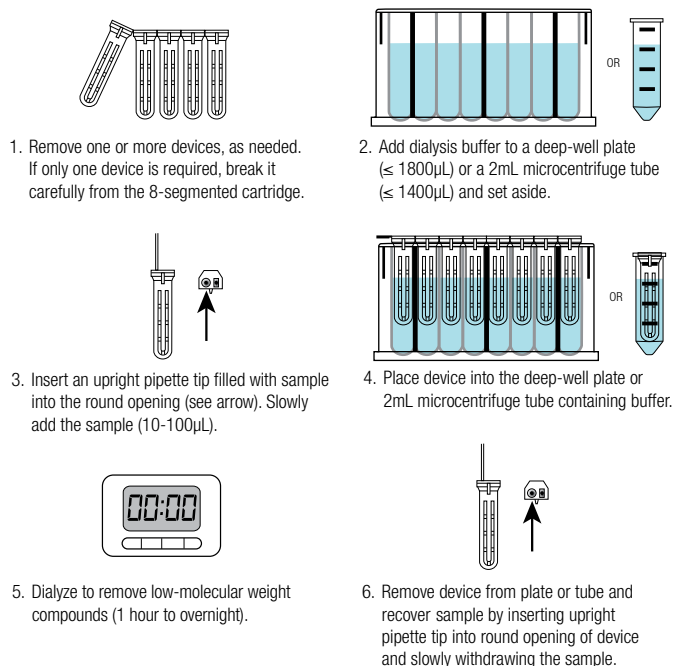

Figure 1. Protocol summary for the Thermo Scientific Pierce 96-well Microdialysis Plate.
**Figure 1. Better performance with Thermo Scientific Zeba Spin Desalting Columns.** Zeba Columns provide higher protein recovery and less sample dilution over a wider range of sample concentrations and volumes compared to alternative products. Zeba Spin Desalting Columns (7K MWCO, 10mL) and Disposable PD-10 Desalting Columns (#17-0851-01, GE Healthcare) were used to desalt 1.5, 2.5 and 3.5mL samples of bovine serum albumin (BSA) at concentrations of 0.04, 0.2, and 1 mg/mL. Desalting was performed according to each manufacturer's recommended protocols for either spin (centrifuge) or drip (gravity) procedures. Three sets of columns were equilibrated in final buffer and then loaded with 1.5, 2.5, and 3.5mL samples. For each electrophoresis gel, an aliquot of starting sample equal to 1µg of BSA was loaded in Lane 1 as the Load Control; all other desalted samples were loaded in the gel at the same volume as the Load Control. Differences in intensity between lanes are a combination of protein recovery and sample dilution caused by desalting.
The dialysis chambers come in strips of eight units that can be easily separated allowing you to utilize just the number of units needed for your experiment. Dialysis can be efficiently performed in a standard 96 deep-well plate using a minimal amount of buffer. The assembled device is compatible with standard 96-well laboratory equipment and automated liquid-handling systems, making it an ideal option for high-throughput applications. Each device can also be used independently in a 2mL microcentrifuge tube. When used according to the method outlined in Figure 1, the Pierce 96-well Microdialysis Plate enables the removal of low-molecular weight contaminants, buffer exchange and desalting within two to four hours with typical protein recoveries of > 90%.
Slide-A-Lyzer MINI Dialysis Devices allow easy sample addition and removal using a standard laboratory pipette and can be used for single or arrays of samples. The self-contained, single-use devices require no syringes, centrifuge, beakers or laborious steps. Using the Slide-A-Lyzer MINI Dialysis Devices, low-molecular weight contaminant removal, buffer exchange and desalting can be accomplished within 4-8 hours with high protein recovery (Table 1). Dialysis efficiencies, rates and recoveries are similar to conventional dialysis using a large volume of buffer (Figure 1).
**Figure 1. Rate of removal of NaCl using a 10K MWCO, 2mL Thermo Scientific Slide-A-Lyzer MINI Dialysis Device versus conventional dialysis.** Bovine serum albumin (BSA) samples (2mL, 0.25mg/mL in 1M NaCl) were dialyzed against 45mL of water in 50mL disposable conical tubes on an orbital shaker (300 rpm) at room temperature. The water was changed once after 2 hours. Results are the average of two samples. Similar results were obtained with the 0.5mL device (data not shown). For conventional dialysis, the samples were dialyzed against 2L of water in a beaker with stirring. The rate of NaCl removal was determined by measuring the conductivity of the retentate at the indicated times. Greater than 95% of NaCl was removed within 4 hours.